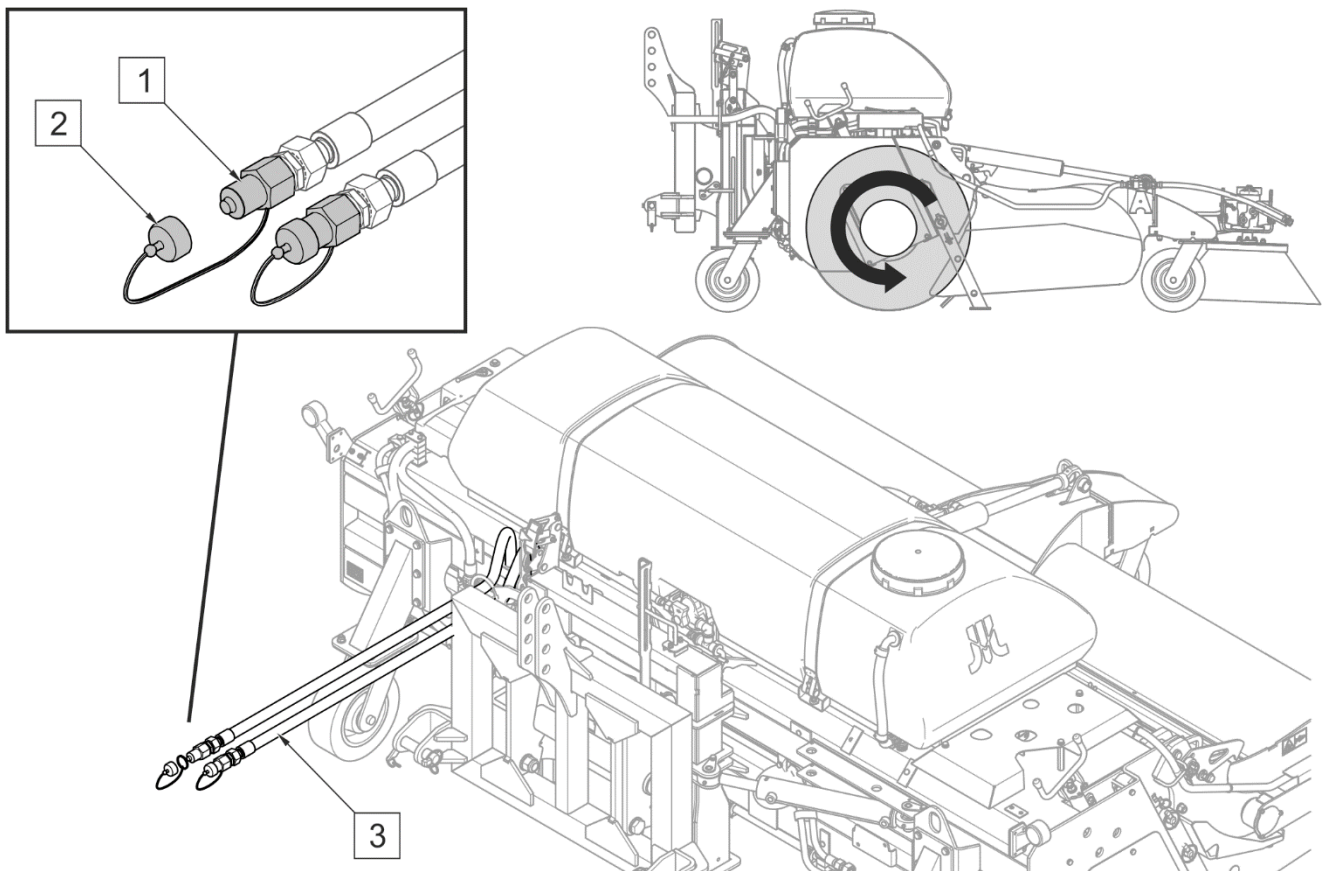

FIGURE 4.4 Hydraulic system connection
- Connect hydraulic conduit plugs (FIGURE 4.4) to appropriate sockets on the carrying vehicle. Connect electrical system plug to 12V 3-pole socket.
(1) - hydraulic conduit connectors; (2) - protective plugs; (3) - hydraulic conduits;
Connect hydraulic conduit connectors (1) to sockets of one section of the carrying vehicle's external hydraulic system with the function of continuous operation and the possibility of changing the direction of oil circulation (FIGURE 4.4).